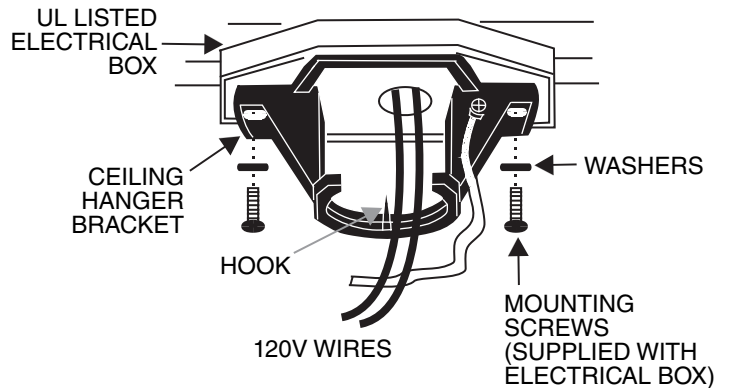

FIGURE 5
1. Pass the 120-volt supply wires through the center hole in the ceiling hanger bracket as shown in Fig. 5.